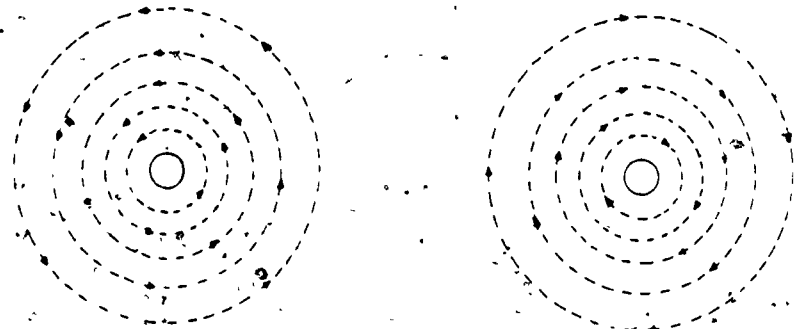

Figure 5. Determining Direction of Current Flow in a Conductor
(1) _____
(2) _____
(3) _____
7. In figure 5 detect if the current is flowing toward you by placing a dot (.) in the center of the appropriate drawing and a plus (+) in the drawing with current going away from you.